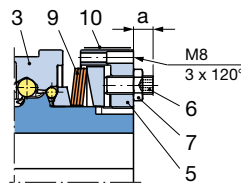

Fig. 10
- EAS®-Compact® overload clutch, sizes 4-5: find dimension "a" in the Adjustment Table glued to the adjusting nut (5) (Fig. 10).
- Counter the set screws (6) again using hexagon nuts (7).
- By evenly screwing 3 hexagon head screws M8 (provided by the user) into the adjusting nut (5) (Fig. 10).